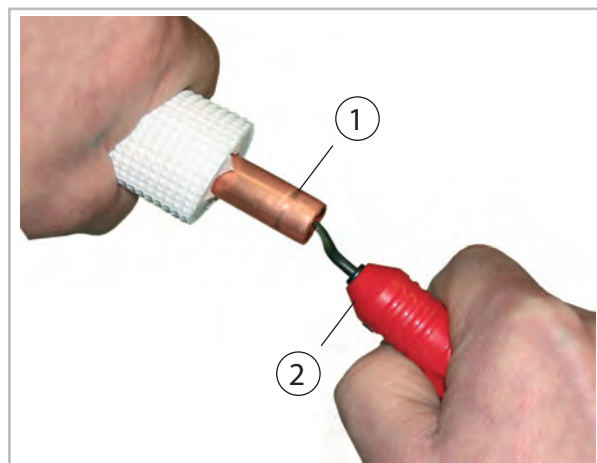
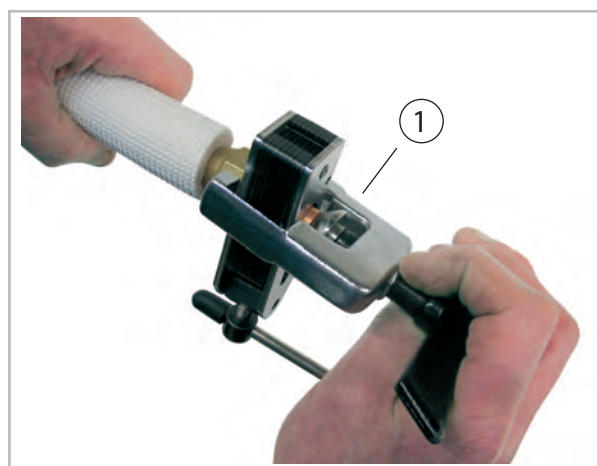

Fig. 31: Deburring the refrigerant piping
Fig. 32: Flanging the refrigerant piping
8. ➤ Prepare the laid refrigerant piping as shown below (Fig. 31 and Fig. 32).